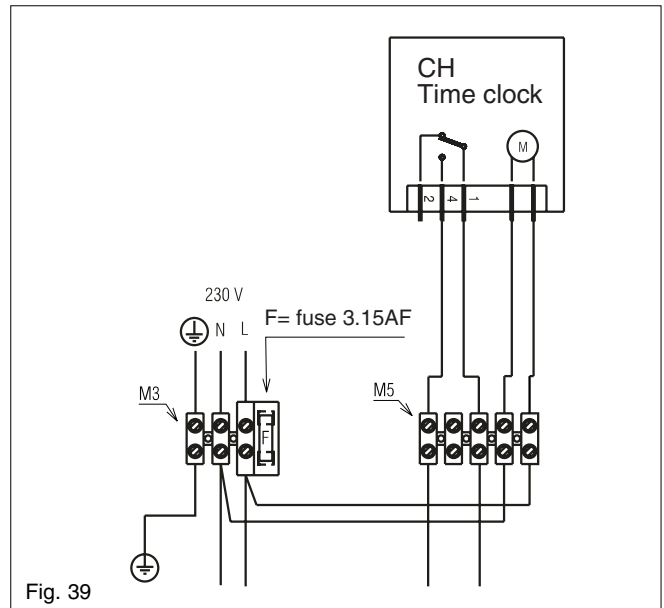

Fig. 39
- single-channel, voltage-free time clocks (fig. 39).